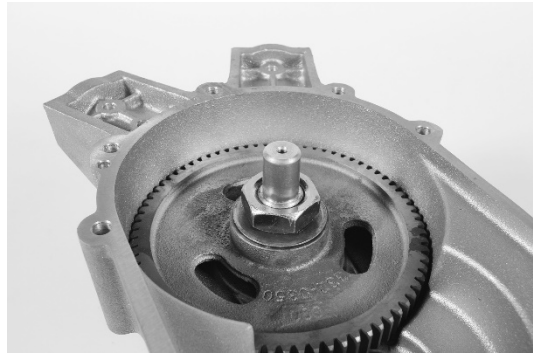

FIGURE 29
5. Remove self-locking nut and flat washer. FIGURE 29